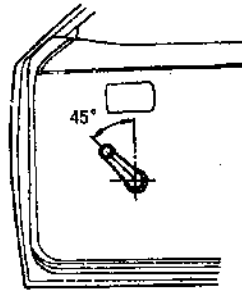

Fig. 4.1-12
5) Assemble glass regulator handle, to make an angle of 45° with vertical plane when the glass is closed fully, as shown in Fig. 4.1-12.